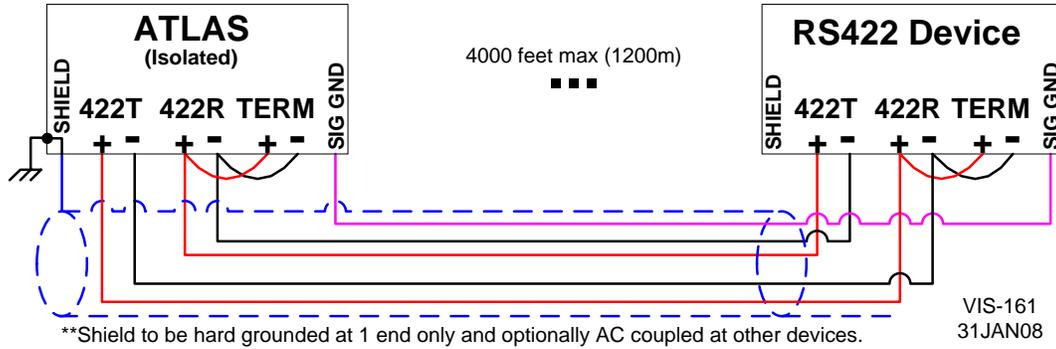

Figure 4-22. Wiring Example–RS-422 Interface to the SmartCore CPU A5200 Board
- **RS-422.** Refer to Figure 4-22 for RS-422 wiring. The transmit data pairs (422T+ and 422T-), receive data pairs (422R+ and 422R-), and signal ground (SIG GND) must be properly connected as shown. In addition, the shield (SHLD) should be connected in at least one location. Only the receiver at each end of the network should be terminated with a resistor.